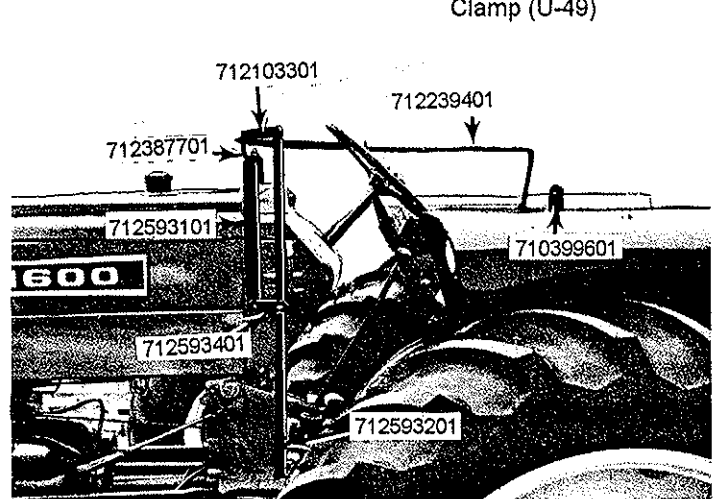

FIGURE 2
3. Bolt #712593101 saddle to tractor by removing 3/8" bolts from tractor. Use 3/8" x 1 1/2" bolts furnished. On left side bolt #712593401 door post brace to tractor at same time. See Figures 2 & 3.
5. Bolt bottom of #712593201 door post to platform using bolt in tractor. See Figures 2 & 3.